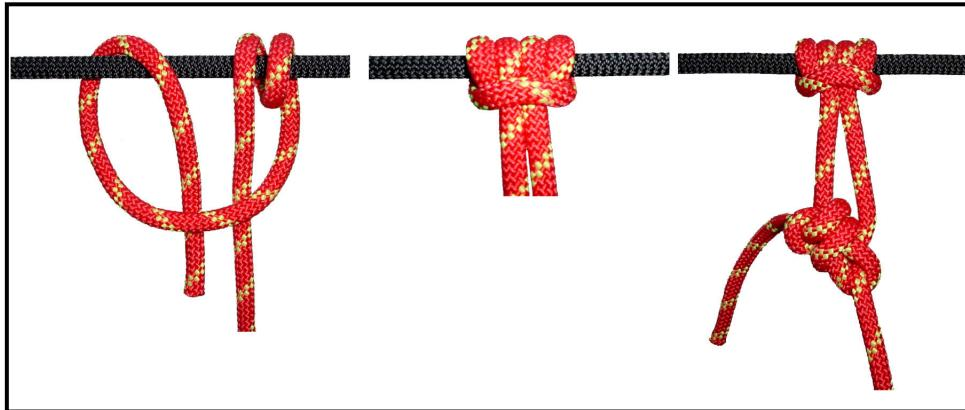

Figure 4-21. End-of-the-rope Prusik knot.
- (2) **End-of-the-Rope Prusik** (Figure 4-21).